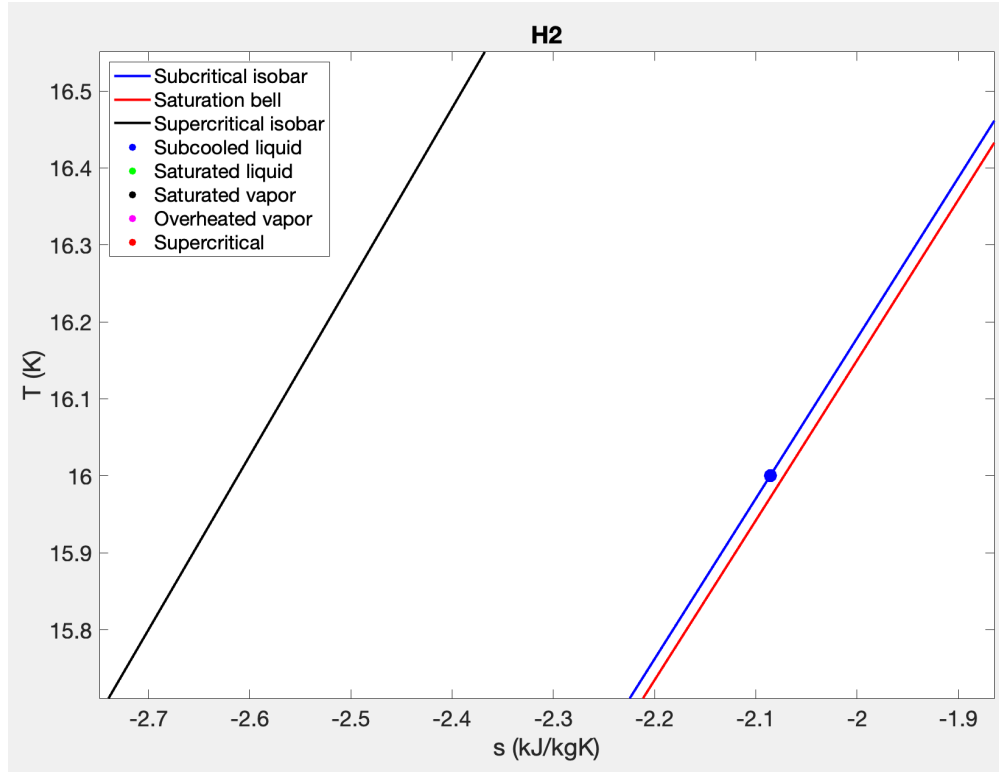

Figure 2: Example: Zoom of the Ts diagram of H_2 .
- Subcooled liquid (or just liquid), in blue, at a temperature below the saturation temperature for the fluid pressure. Please see the zoomed area in Figure 2, where the difference between the isobar and the saturated liquid line is can be appreciated.